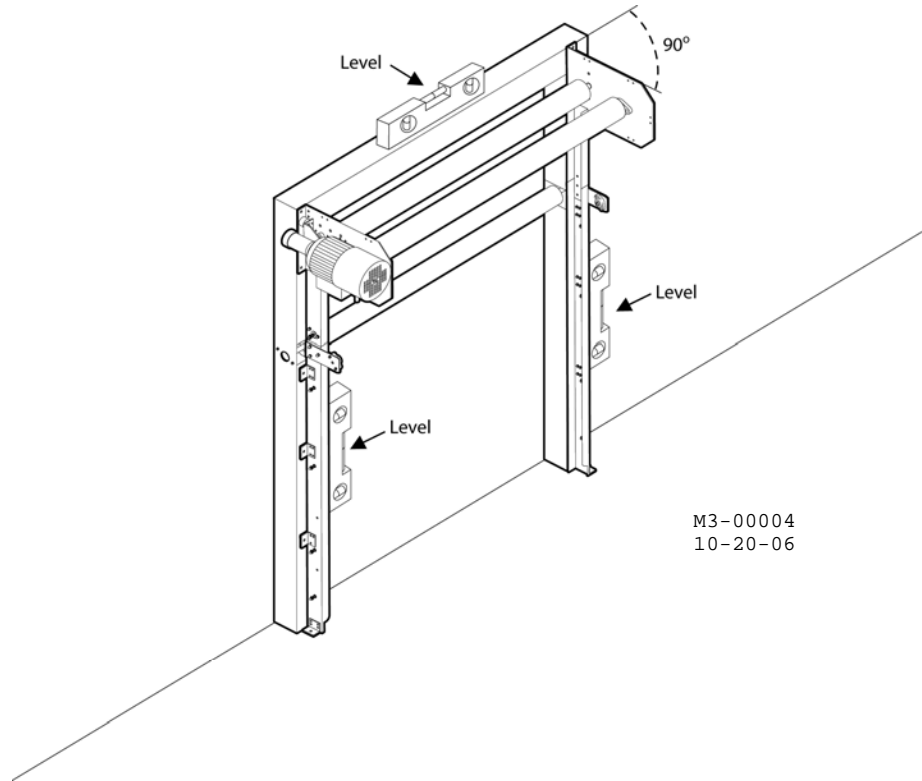

Figure 2-15: Level and Plumb the Door
- Using a level, check each side of the door opening for level and plumb. See Figure 2-15.